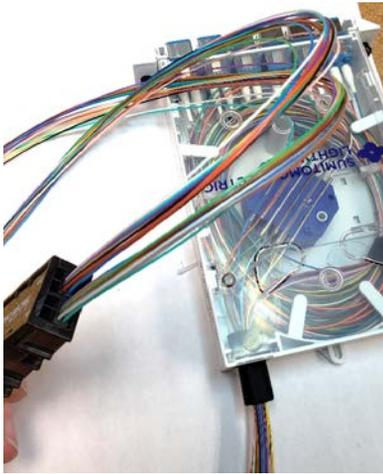

Figure 19
7.8 The 1st 24 fiber fox cassette should now be terminated on the blue and orange nylon subunits from the fiber bundle as shown in **Figure 19**.